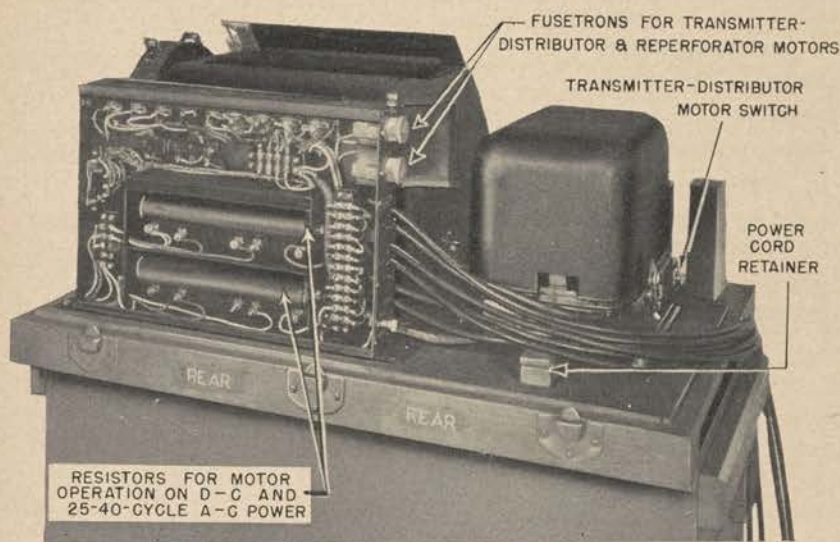

Figure 22. Reperforator Transmitter TG-26-A, rear view.
transmit messages. A distant station cannot start and stop the reperforator motor as in the case of page-printing teletypewriters. When the platen is in the figures position, operation of the H key on the reperforator will stop the motor of associated teletypewriters equipped with mechanical motor control. The motor switch of the transmitter-distributor is mounted on the side of the unit base (fig. 22).
15. PACKING FOR TRANSPORTATION. Shut off the power, disconnect all power-cord and signal-circuit connections, and replace all parts in their carrying chests. Handle the equipment carefully. Fold the line, power, reperforator and transmitter-distributor cords of the reperforator-transmitter carefully in the space between the jack box and the rear of the reperforator. Secure the free ends of the signal cords by plugging them into jacks of the jack box. Secure the free ends of the two power cords by placing them under the hinged cord retainer mounted on the base of the rear of the transmitter-distributor (fig. 22). When packing Reperforator Transmitter TG-26-A or TG-27-A, be sure that the tape trap doors are closed in both the base and cover before fastening the cover to the base.
(1) In the reperforator-transmitters, two 1.6-ampere Edison base fuse-trons are located in sockets in the upper left side of the jack box and are protected by a hinged cover (fig. 22). The upper fusetrone is in the transmitter-distributor motor circuit; the lower protects the motor of the reperforator.
(2) In Line Unit BE-77-A, a 1/4-ampere, type 3AG, glass-inclosed fuse is located on the meter panel.
(3) In Line Unit BE-77, a 1/4-ampere, type AG, glass-inclosed fuse is located under the cover.
(4) In Rectifiers RA-87 or RA-89, a 5-ampere, type 3AG, glass-inclosed fuse is mounted on the tap-changing panel for the d-c circuits, and a 15-ampere, fibre-inclosed cartridge fuse is located underneath the chassis for the a-c circuits.
(5) Spare fuses are carried in Chests CH-53 and CH-53-A.